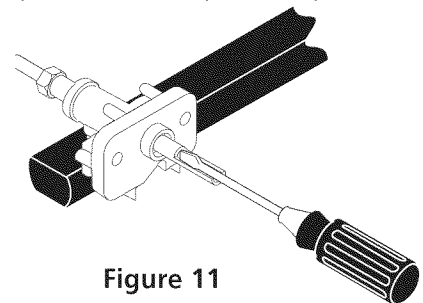

Figure 11
11.4 Adjust the "LOW" Setting of Surface Burner Valves (see Figure 11)